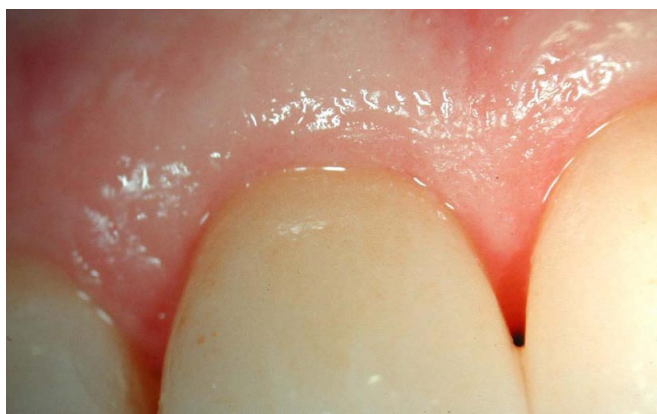

Fig. 2. Use of an all-porcelain facial margin eliminates the need to extend preparation into the sulcus; note healthy gingival response.
2. Excessive Subgingival Placement of Restorative Margins: Acceptable impressions are almost impossible when preparation margins are placed in too close proximity to the epithelial attachment. The detrimental effect of subgingival crown margins on the periodontium is well documented (Fig. 1). **Solutions:** 1) *Keep margins supragingival whenever possible.* This makes impression procedures significantly easier, but more importantly, gingival health is preserved. 2) *Use all-porcelain facial margin.* A metal collar necessitates subgingival placement to satisfy esthetics. An all-porcelain facial margin placed supragingival or at the level of the gingival crest, eliminates the need to extend into the sulcus (Fig. 2). Note that the disappearing margin design is no longer prescribed due to poor margin adaptation, roughness and overcontour at the cervical aspect. 3) *Surgical crown lengthening.* If margins must extend into and violate the epithelial attachment, periodontal therapy prior to restorative treatment is indicated. (Fig. 3).